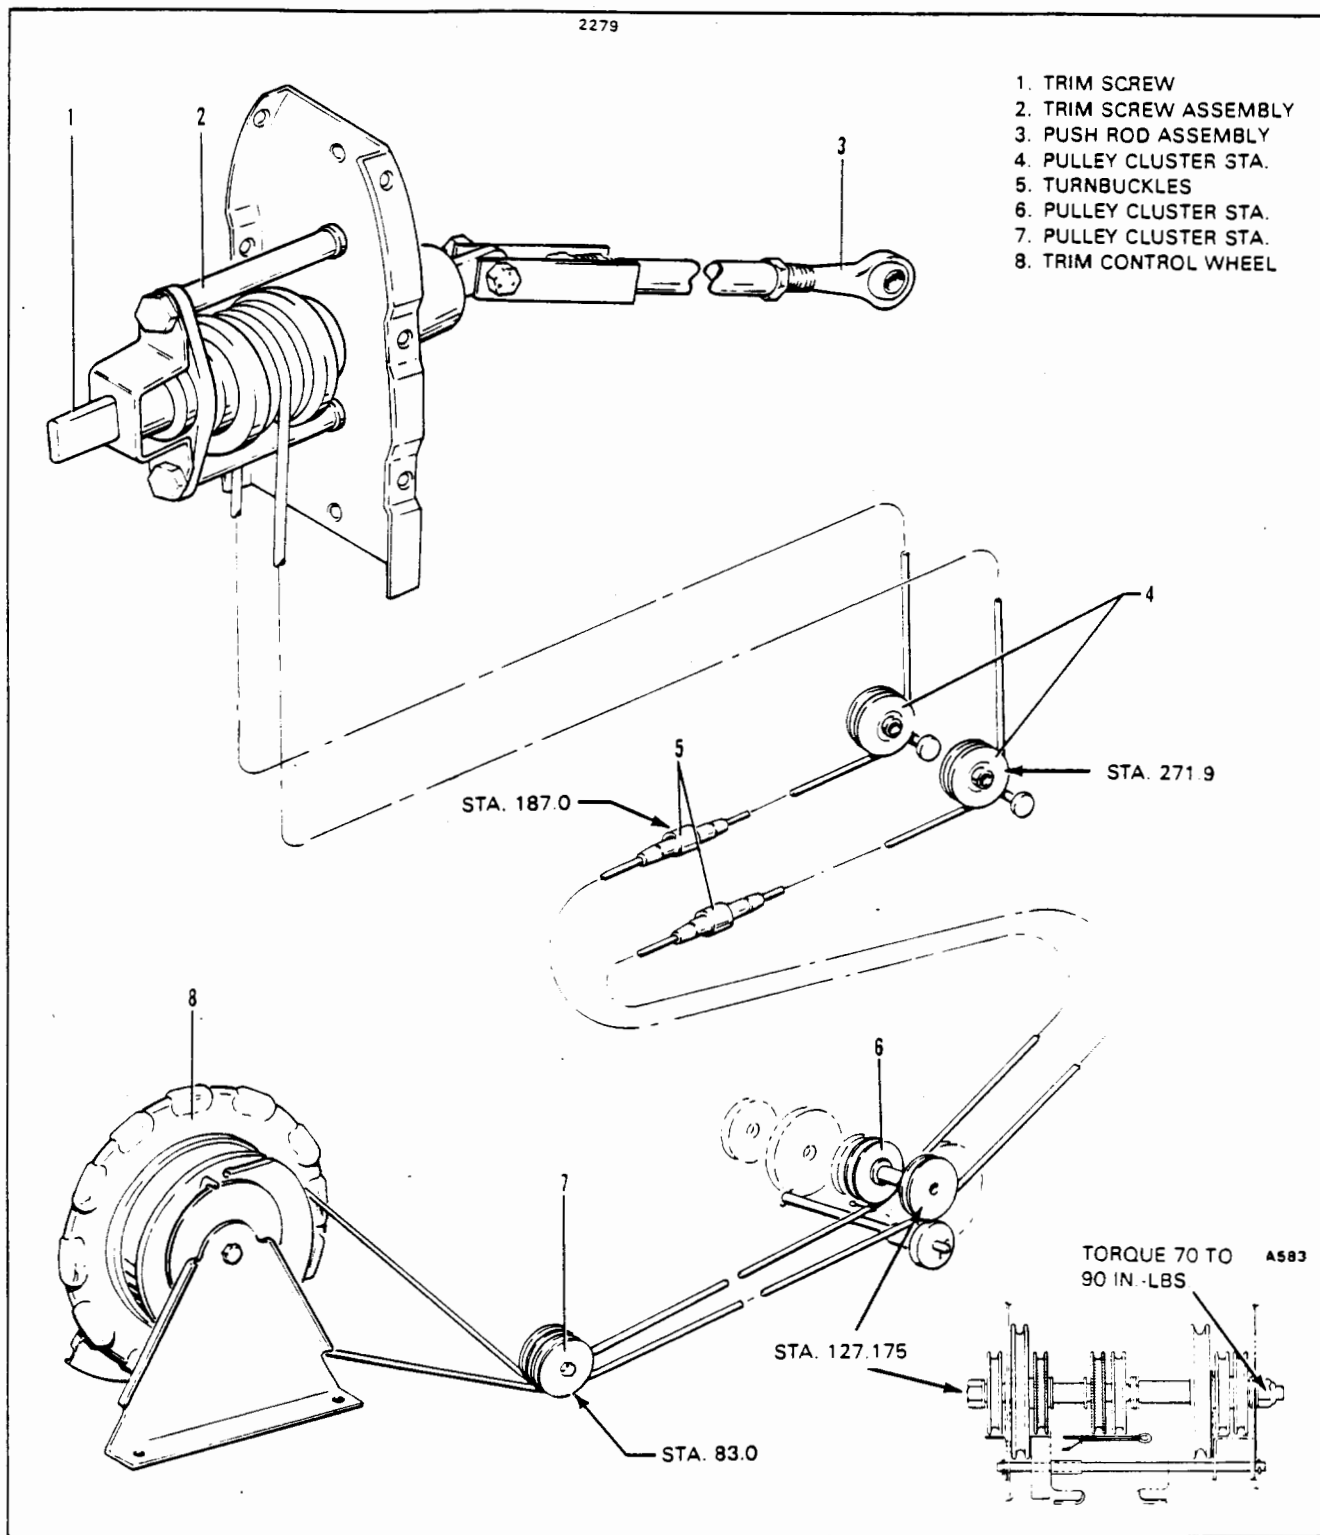

Figure 27-16. Stabilator Trim Controls
REMOVAL OF STABILATOR TRIM ASSEMBLY (FORWARD). (Refer to Figure 27-16.)
INSTALLATION OF STABILATOR TRIM ASSEMBLY (FORWARD). (Refer to Figure 27-16.)
REMOVAL OF STABILATOR TRIM CONTROLS (AFT). (Refer to Figure 27-16.)
INSTALLATION OF STABILATOR TRIM CONTROLS (AFT). (Refer to Figure 27-16.)
3. Lubricate the bearings and install barrel per exploded view given in Figure 27-16. Install the barrel using any combination of AN960-10, AN960-10L and AN960PD10L washers to achieve free barrel rotation with trim cable rigged and tensioned.
RIGGING AND ADJUSTMENT OF STABILATOR TRIM. (Refer to Figure 27-16.)